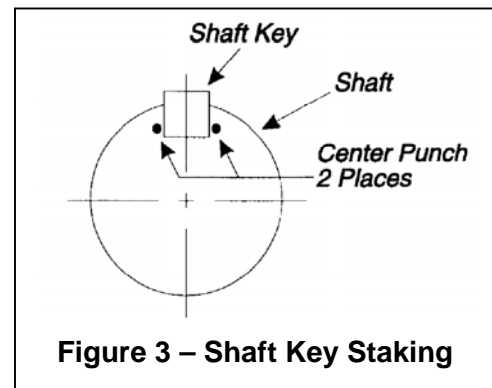

Figure 3 – Shaft Key Staking
4. Secure key by staking with a center-punch on the end of the shaft. Stake on both sides of the shaft as shown in Figure 3.
9. Remove screws (P4) and lockwashers (P10) and lift actuator assembly off valve. See Figure 3 for connecting parts identification.